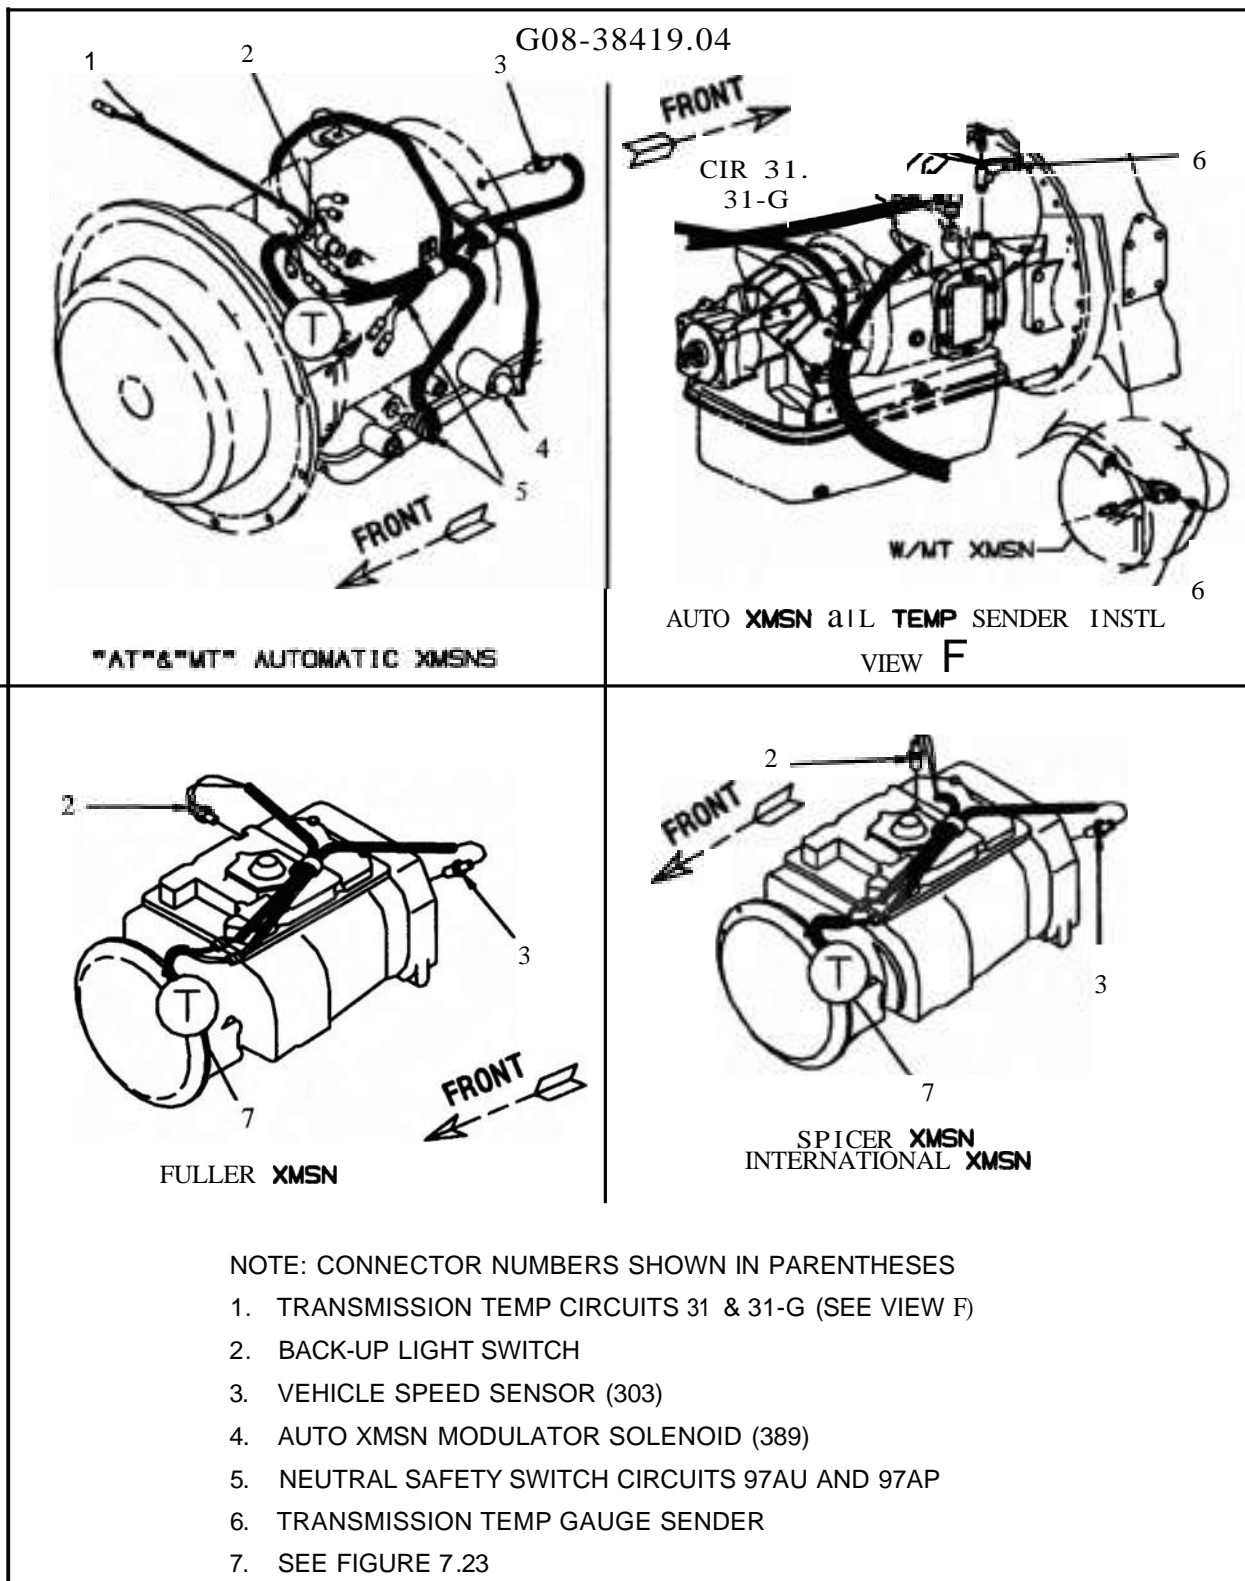

Figure 7.25 - Vå Electronic Engine Wiring At Transmission (Truck & FBC)
10. START MOTOR CRANK RELAY (387)
11. SEE FIGURE 7.25